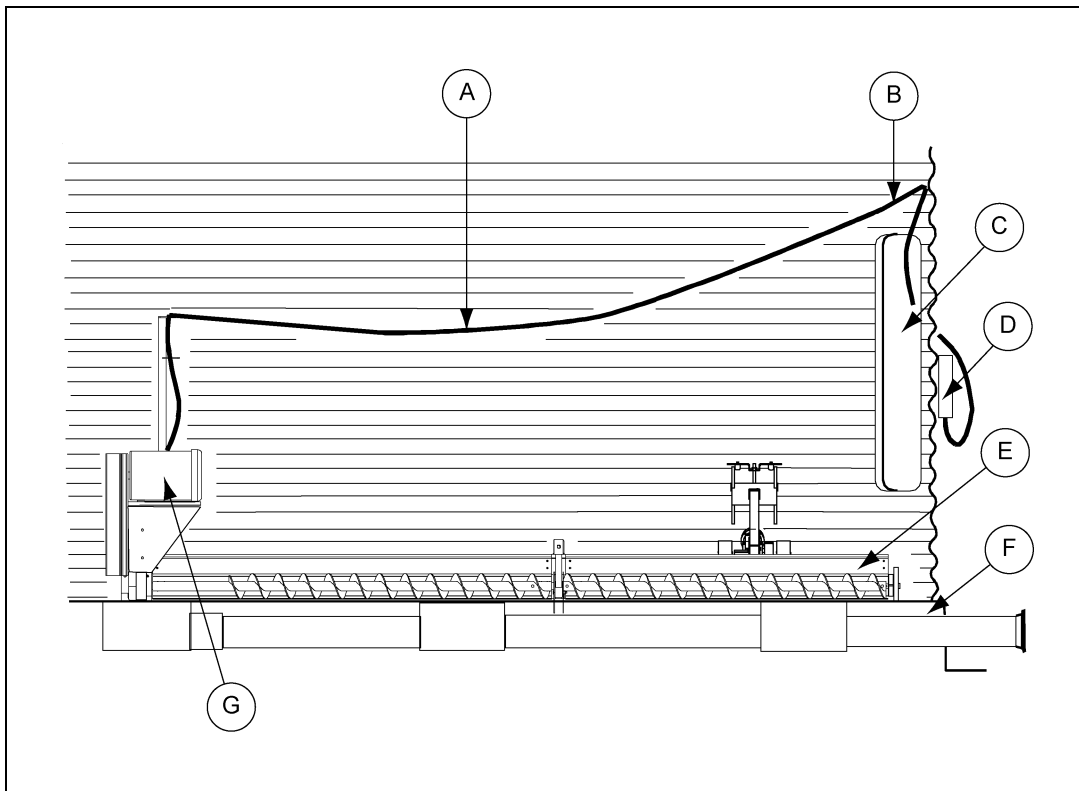

Figure 5G
5. Attach suitable electric wiring to the motor in a manner that will permit the sweep to rotate several times about the bin. The motor starting controls must be located outside of the bin. They must never be installed on the sweep auger inside the bin. Locate the motor starting controls outside of the bin, but near the door so the operator has full view of the operation inside the bin. (See Figure 5G.)